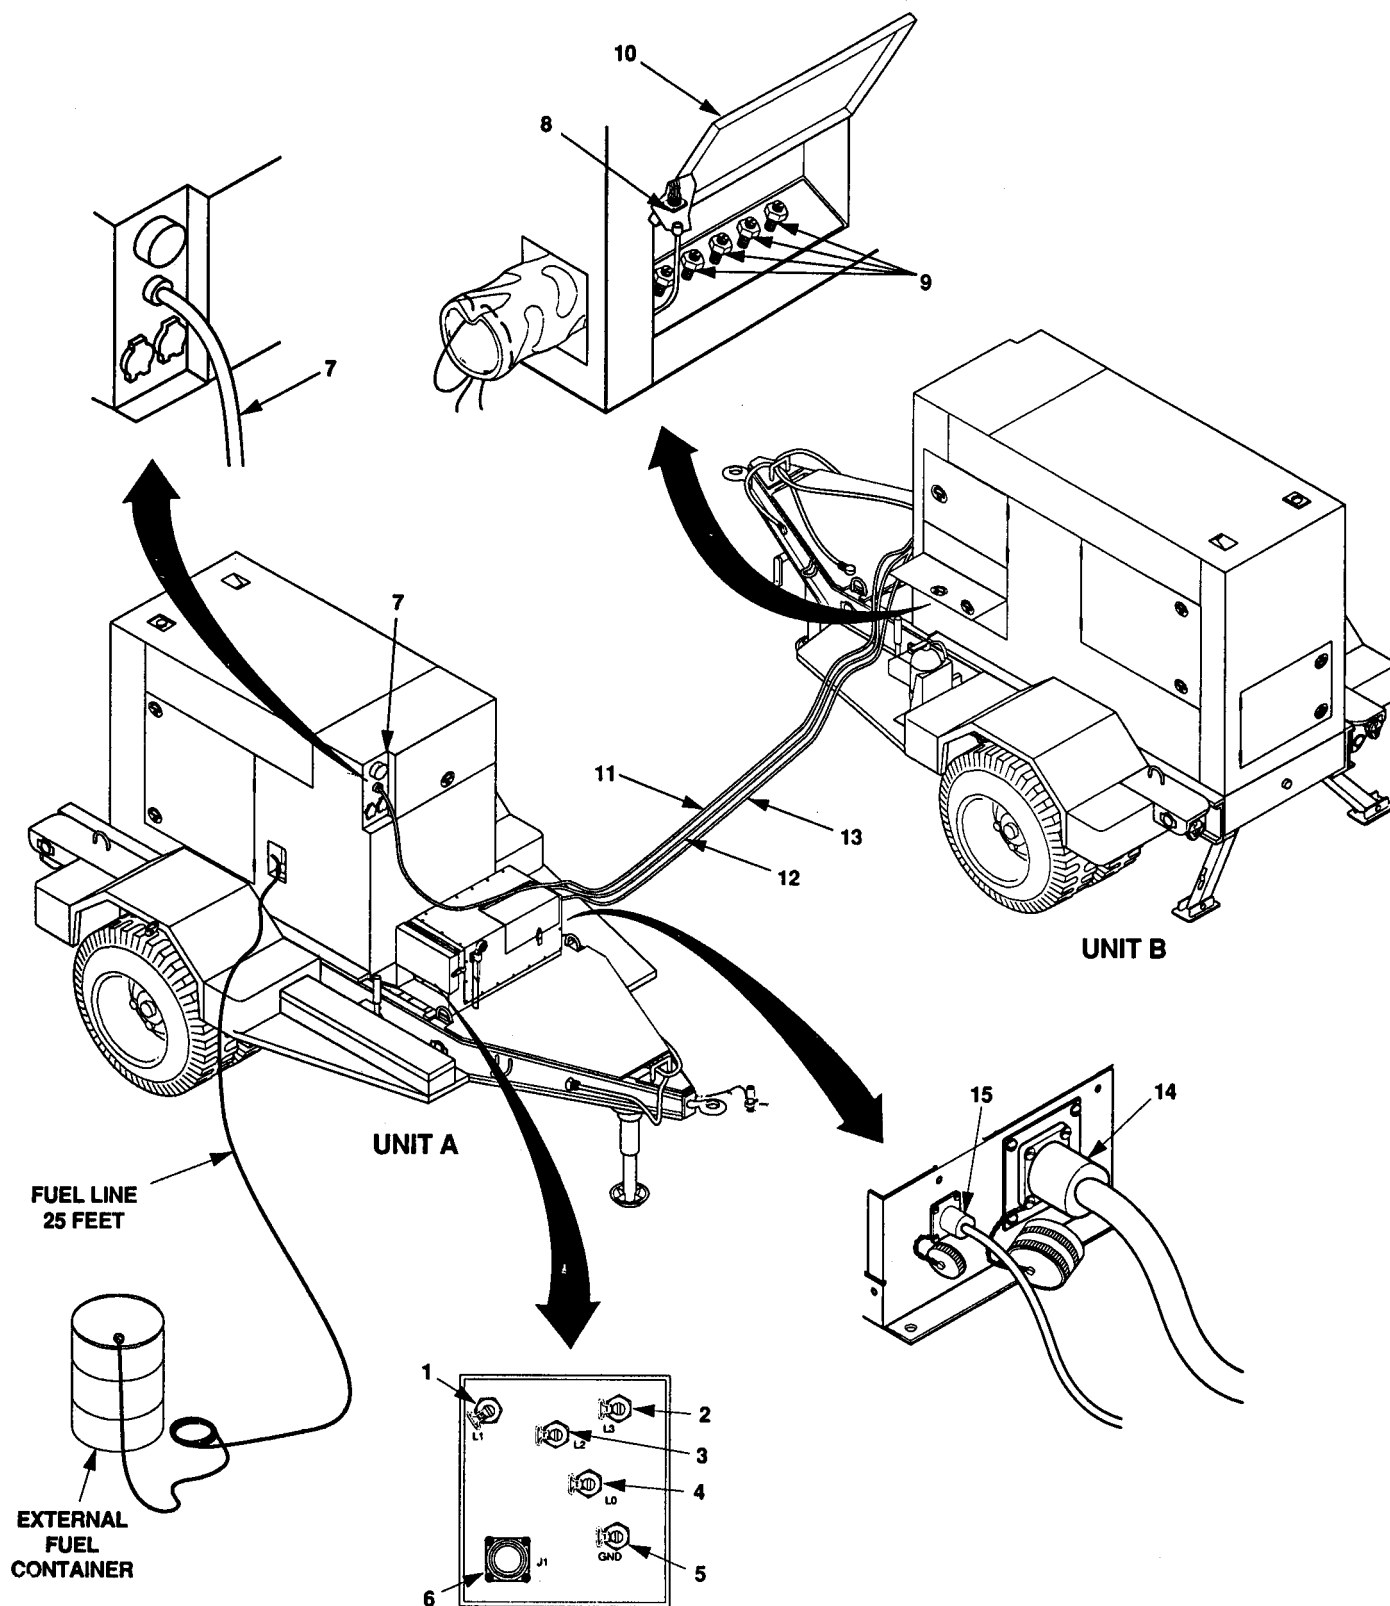

Figure 2-18. Disconnection of Power Plant.
**2-7.2.2 Power Plant.** Load may be connected to the switch box (figure 2-18) by either of two methods. One method is to connect the load cable to the J1 connector (6). The other method is to connect load cables to the load terminals (1, 2, 3, 4, and 5). Disconnect the load cable using the appropriate method. Disconnect unit A from unit B as follows: